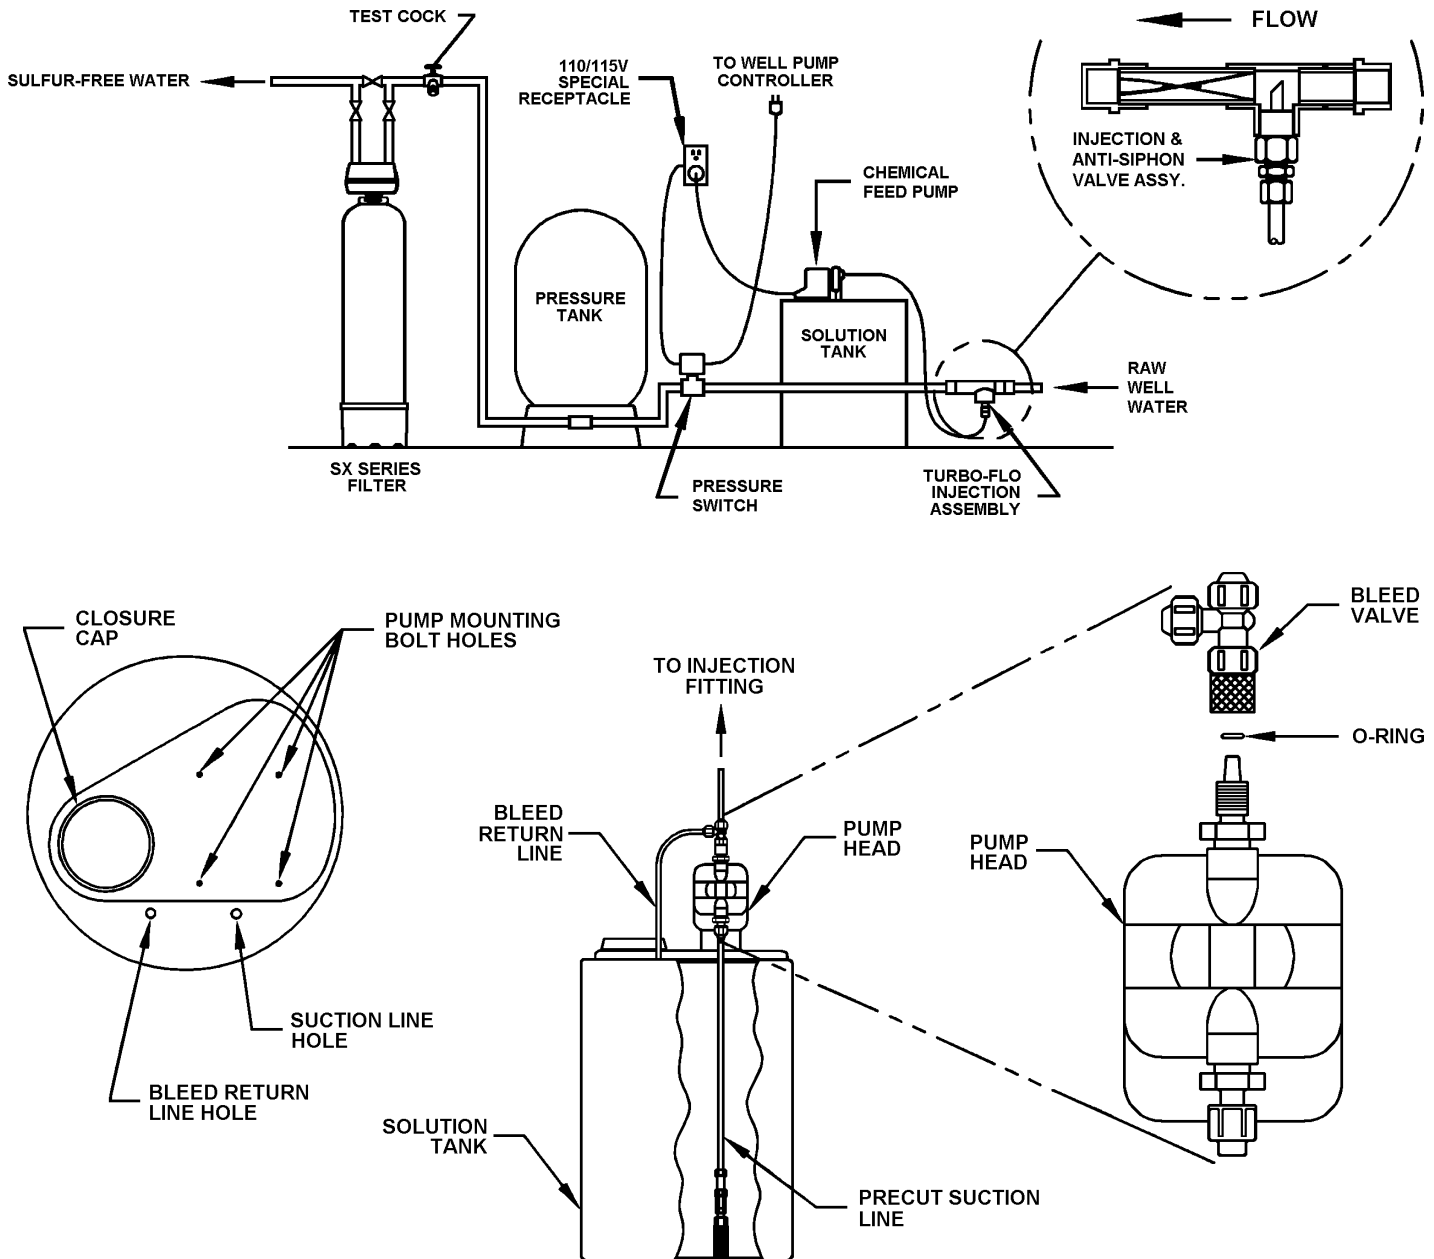

Figure 7. FEEDER SYSTEM SCHEMATIC
- (3) Remember that the SUL-X filter **INLET** is attached to the pipe that supplies water (i.e., runs to the pump), and the **OUTLET** is the pipe that runs toward the water heater.
- (4) The injection point for feeding SUL-X Solution **MUST** be located between the well pump and the pressure tank. The injection fitting **MUST** enter the bottom of the supply line rather than side or top entry (Figure 7).
- (5) The solution tank should be located in as close proximity to the injection point as possible.
- (6) Before commencing the installation it is advisable to study the existing piping system and to determine the size, number and type of fittings required.
Step 3. The feed pump and solution tank require assembly prior to use (Figure 7).
h) Electrical power to the feeder pump must be provided through a properly grounded 110V special receptacle which is controlled by the pressure switch (see "WARNING" notice and Figure 7 for wiring instructions). **NOTICE: CUTTING OF FEEDER PUMP POWER CORD VOIDS MANUFACTURER'S WARRANTY.** Refer to instruction manual enclosed in feeder pump carton for more information.